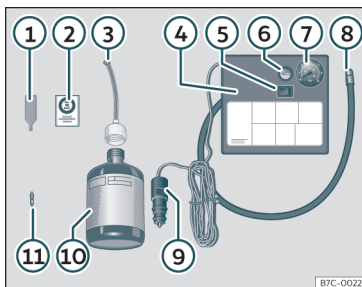

Fig. 57 Standard display: contents of the anti-puncture kit.
- Unscrew the tyre valve cap and insert. Use the >>> **Fig. 57 ①** tool to remove the insert. Place it on a clean surface.
- Shake the tyre sealant bottle vigorously >>> **Fig. 57 ⑩**.
- Screw the inflator tube >>> **Fig. 57 ③** into the sealant bottle. The bottle's seal will break automatically.
- Remove the lid from the filling tube >>> **Fig. 57 ③** and screw the open end of the tube into the tyre valve.
- Place the insert back into the tyre valve using the tool >>> **Fig. 57 ①**.
- Screw the compressor tyre inflator tube >>> **Fig. 57 ⑧** into the tyre valve.
- Check that the air bleed screw is closed >>> **Fig. 57 ⑥**.
- Insert the connector >>> **Fig. 57 ⑨** into the vehicle's 12-volt socket >>> **page 149**.
- Turn the air compressor on with the ON/OFF switch >>> **Fig. 57 ⑤**.